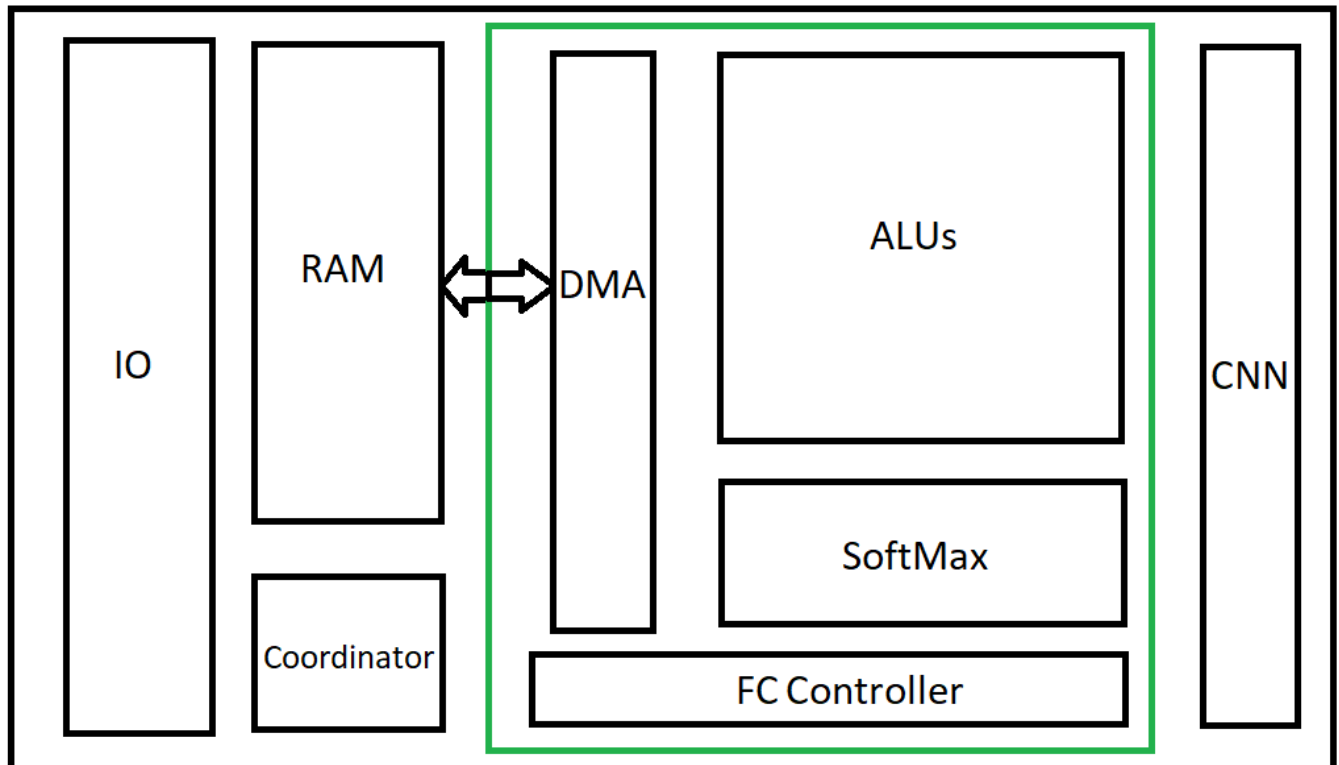

Figure 2: A simplified system design
**You are required to build a detailed hardware design for the FC module.** The system is built for applying fixed-point operations (multiplication/addition/comparison) in order to apply a fully-connected network layer and select the max label. The FC module (green box) overview is shown in figure 2. The module should be designed to optimally compute a variable number of neurons in a FC layer with a variable number of inputs, then generate the label for the max neuron value.